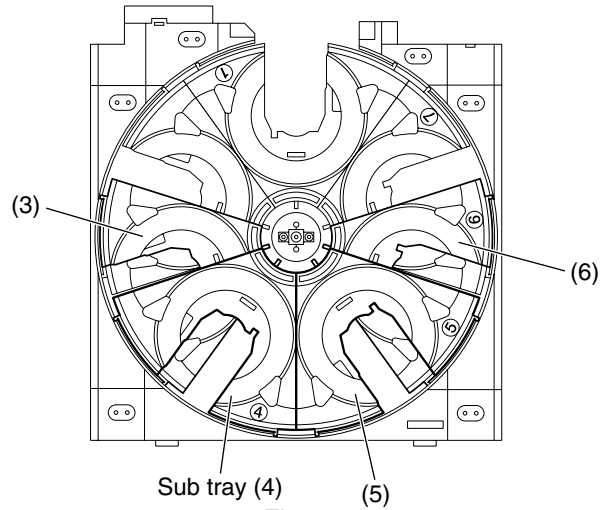

Fig.8
1. Remove the two screws **E** attaching the U/D cam (U) on the upper side of the main tray assembly.
■ **Removing the sub trays (See Fig.8 to 14)**
- Prior to performing the following procedure, remove the main tray cover and the U/D cam (U).
**CAUTION:** Remove the sub tray assembly (4), (3), (2), (5), (6), (7) and (1) in order. When reattaching, observe the following procedure without fail.
1. Remove the sub tray (4) and (3) from the main tray upward.
2. Remove the sub tray (2) upward.
3. Similarly, remove the sub tray (5) , (6) and (7) upward.
4. At last, remove the sub tray (1) upward.